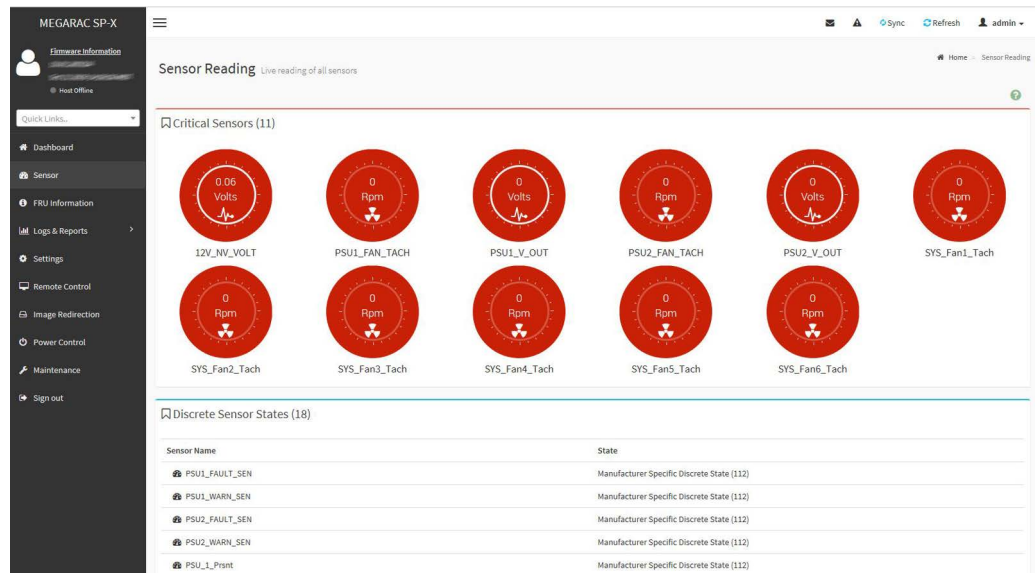

Figure 7.11 Sensor menu
5. Select the **Sensor** menu to view the current and discreet system sensors. The **Sensor** menu is shown in Figure 7.11 on page 88.